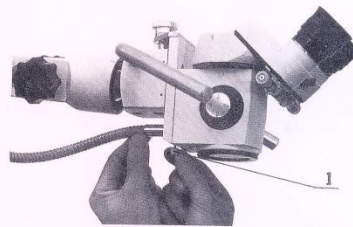

Fig.7
- (1) Screw off the fiber optics protecting cover
(2) Insert the fiber optics into the hole on the lower part of microscope to a great degree. Then tighten the screw (Fig.7-1). If the fiber optics cannot be inserted, check whether the screw tip has been out of the hole wall. After the screw is out, the fiber optics can be inserted (refer to Fig.7). Thus the whole assembly procedure is over.